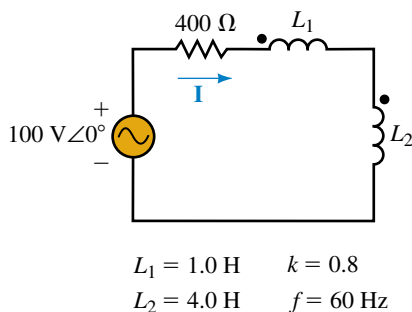

FIGURE 24-78
36. For the circuit of Figure 24-78, determine $\mathbf{I}$.